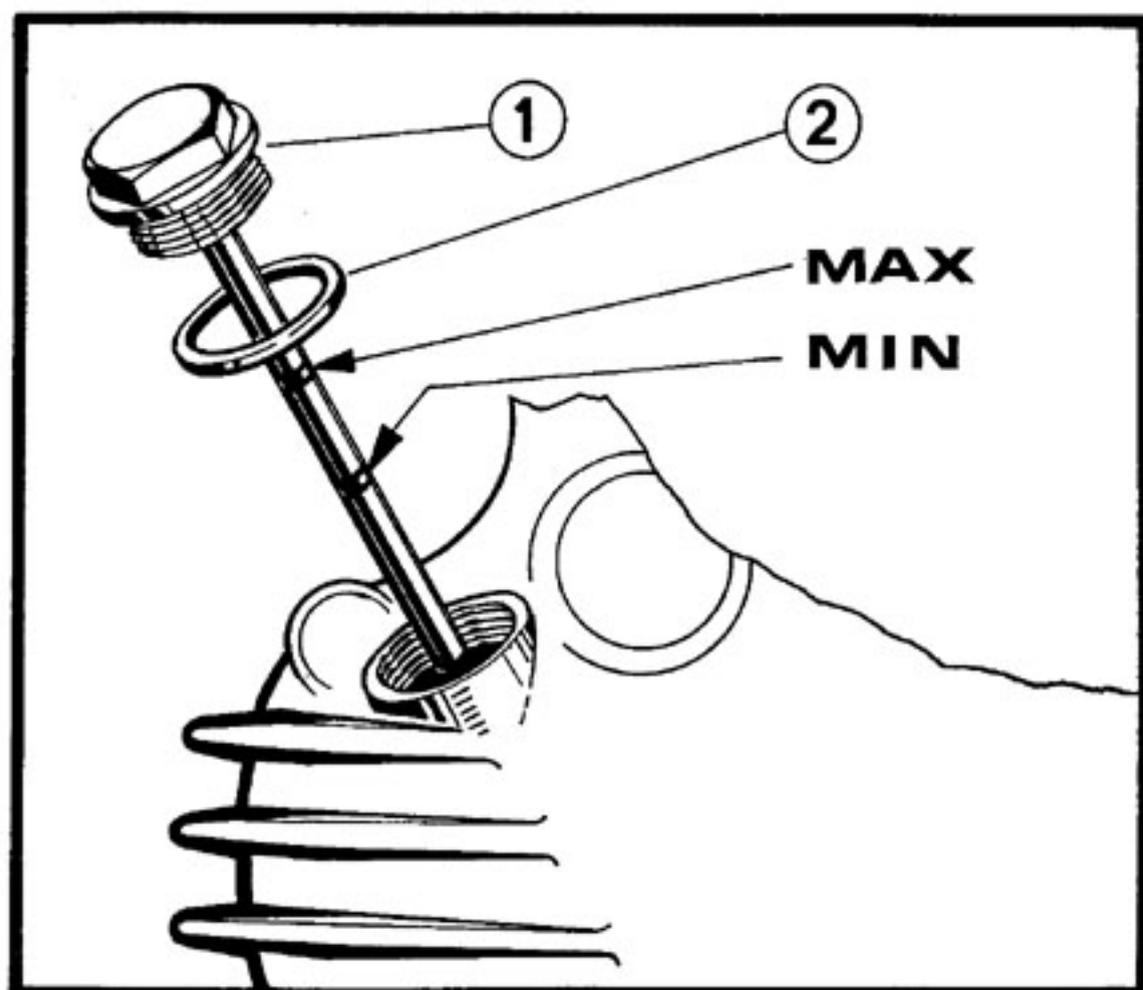

Fig. 6
- 3) Extract the stick and verify the oil level which must be within the «Min.» and «Max.» notches (see Fig. 6).